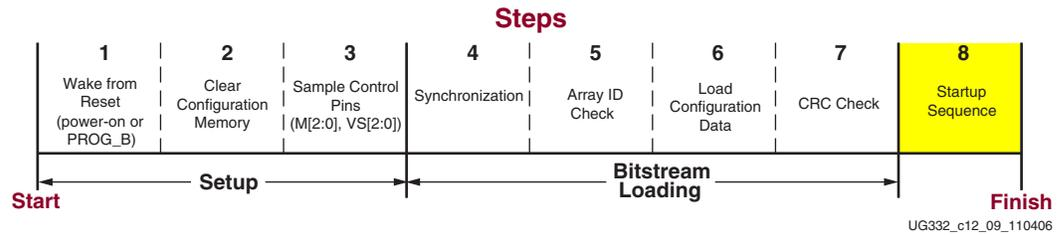

Figure 12-11: Startup Sequence
3. Hold the `DONE` pin Low, which prevents the FPGA from completing the Startup Sequence, shown as Step 8 in Figure 12-11, page 251.